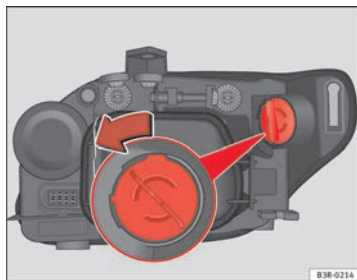

Fig. 207 DRL light (day light)
- Turn the bulb holder anti-clockwise, pulling it by the grip ⇒ fig. 207 and removing the bulb holder and the bulb.